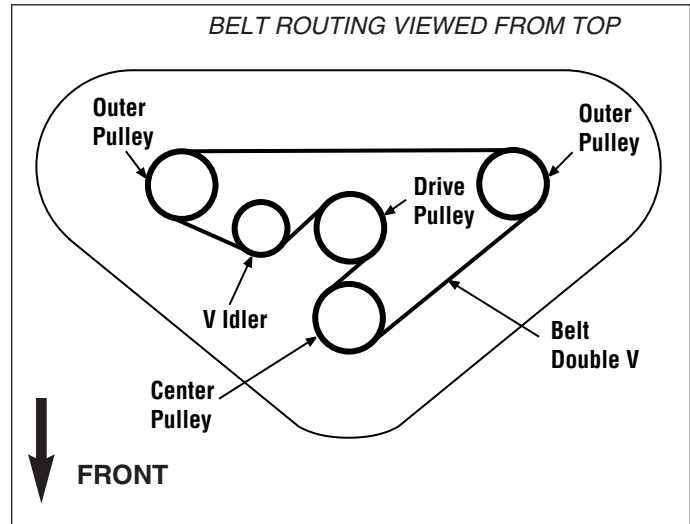
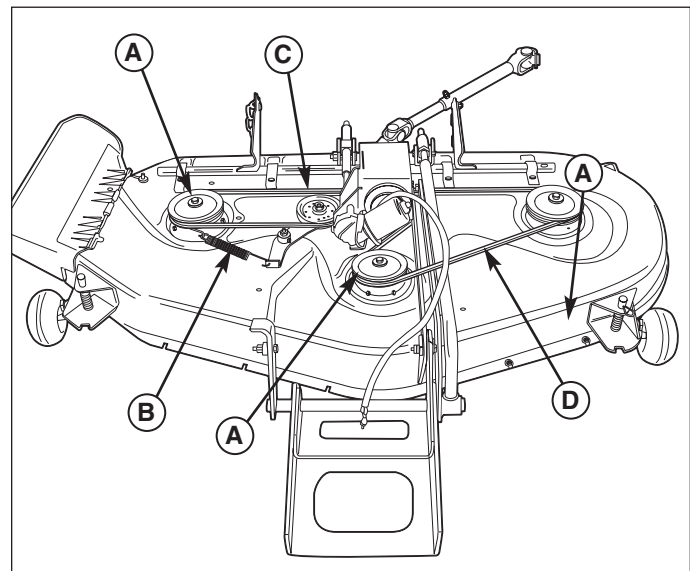

Figure 48. Mower Belt Routing
Figure 49. Mower Deck - Covers Removed
3. Using a spring puller or a small rope loop, release the idler assembly tension spring (B, Figure 49).
4. Remove the old drive belt (D).
7. Install the new drive belt as shown in the diagram in Figure 48.